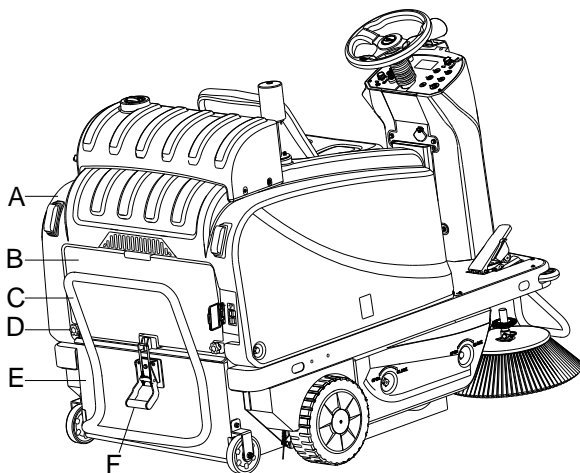

Figure 5
3. Remove the cover (A, Figure 5)
4. Disengage the latch (F, Figure 5) by pulling its lower end.
5. Remove the hopper (E, Figure 5) by disengaging it from the inner guides with the handle (C, Figure 5).
6. Unscrew the knobs (D, Figure 5) and remove the filter compartment cover (B, Figure 5).